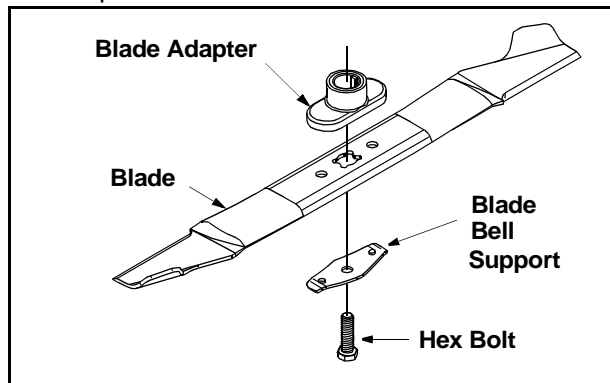

Figure 13
- Remove the bolt and blade support or bell washer which hold the blade and adapter to the engine crankshaft. See Figure 13. Remove the blade and adapter from the crankshaft.
- Install the blade adapter on the crankshaft with the "star" away from the engine. Refer to Figure 13. Place the blade with the side marked bottom (or with part number) facing away from the adapter.